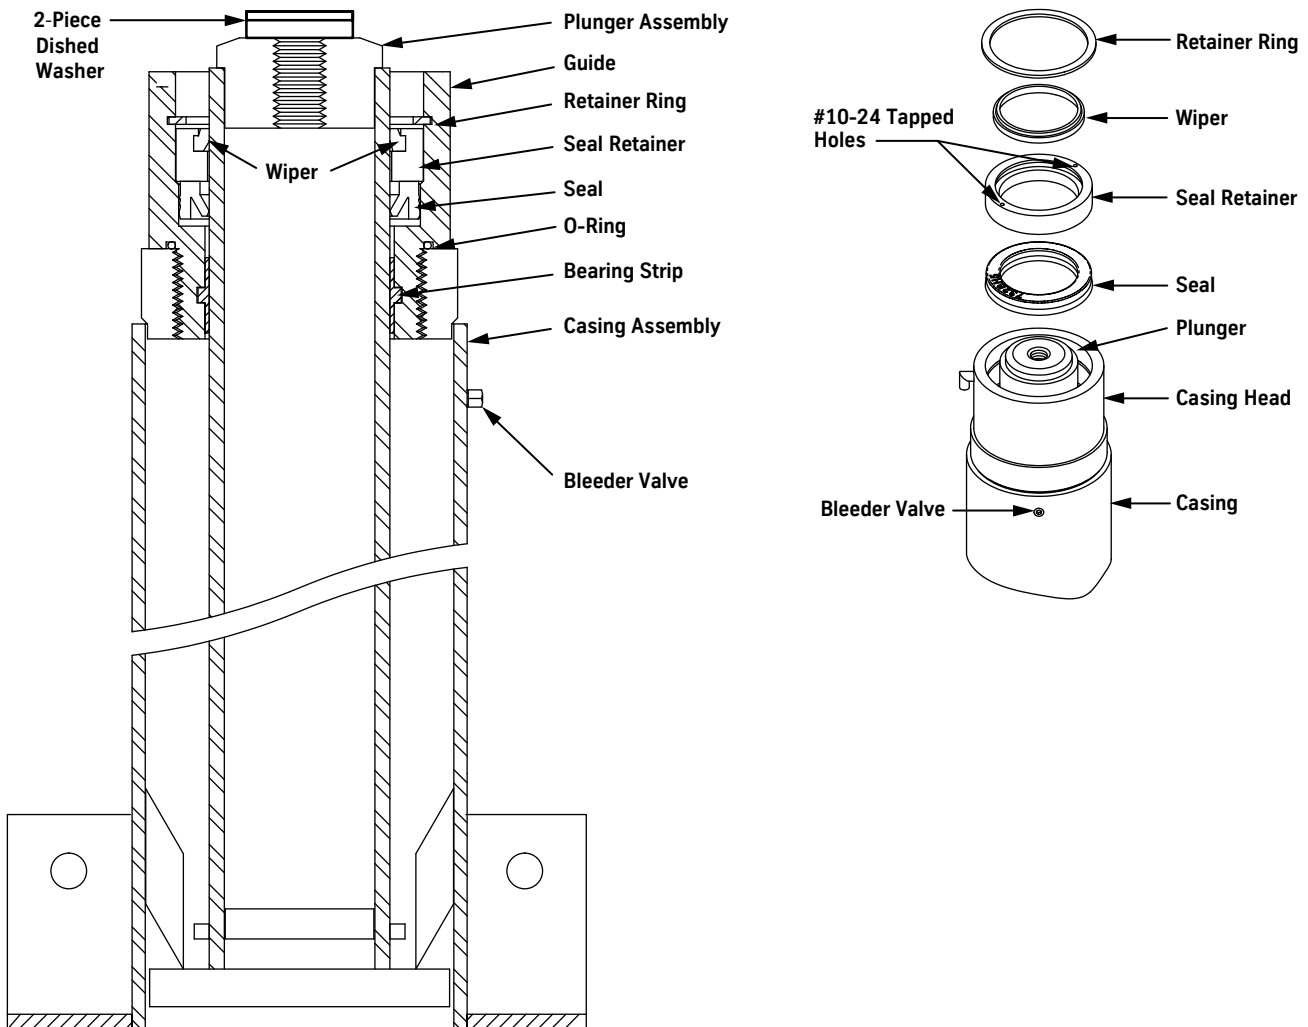

Figure 52 - Remove and Replace Jack Seals
6. Remove the lift bracket / platen assembly from the stile. Retain the two beveled washers between the jack and lift bracket / platen assembly. See Figure 52.